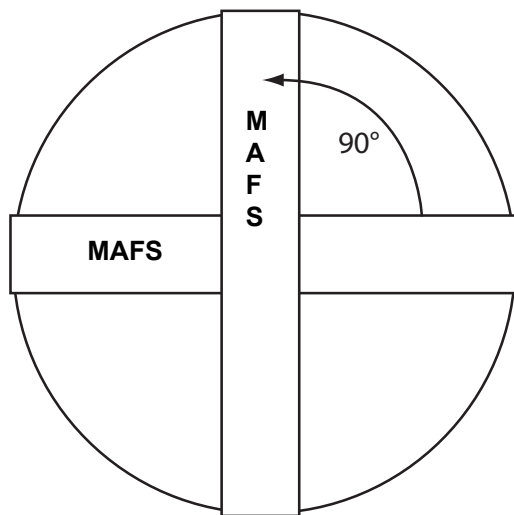

Figure 2: Cross-sectional view of probe placement in a round duct.
2. Locate probes 90 degrees apart. See Figure 2 for an example.